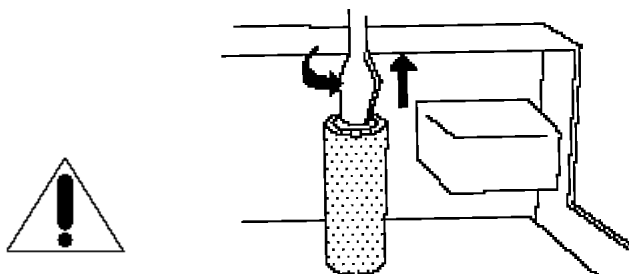

Figure 5 - Fuse location, next to AC power socket.
1. Check that the AC Detachable Power Cord is plugged into the SFD-2 MKII Detachable Power Cord Socket (H) and is connected to a live source of AC power. For instance, if using a power bar, check that the bar is turned on.
2. Ensure that the digital source is connected to the appropriate digital input I,J,K,L&M) as selected by the Input Signal Selector Switch (B).
- A "fast-blo" fuse, with a rating of 1.5 Amp/250 V (.075 Amp/250 V for European and Asian versions), is installed in the cylindrical tube next to the AC power socket (Figure 5).
- The AC power fuse is intact and has not blown. If the fuse has blown, the thin metal conductor will have melted and the glass may appear "smoked". If the fuse has blown, replace with a fuse of the same rating (1.5 Amp/250V fast-blo for 100 to 120 volt countries and 0.75 Amps/250V fast-blo for 200 to 240 volt countries). See Figure 5 for location and removal.
6. Check that both the front panel Power Indicator LED (F) and the Signal Locking Indicator LED (E) are lighted (glowing light green). If at any time the Signal Locking Indicator LED (E) fails to light, check to see that a CD is properly loaded in the transport or CD player and that the unit is in the "PLAY" mode. If all of the above troubleshooting steps have been followed (including step 2) and the LEDs are not lighted (remain dark green), contact your dealer or distributor for assistance.